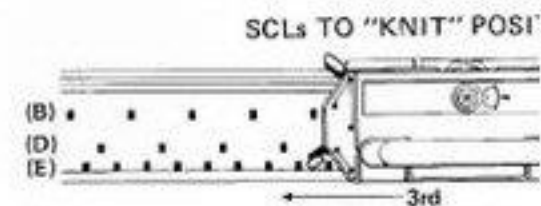

Fig.76
- With carriage on right, using the straight edge of 1 x 1 selector plate push back into position (D) from position (E) every 4th holding needle, and now with the teeth of 1 x 1 selector plate draw forward into position (E) from position (B) every alternate needle starting with the extreme end needle on the right. (Fig.76)